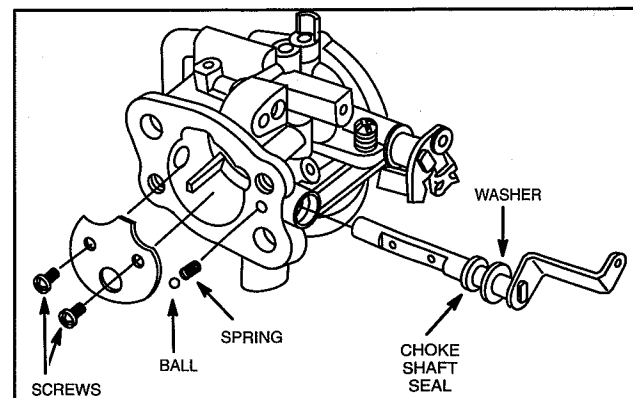

Fig. 30 – Remove Choke Shaft
7. Remove choke plate, shaft and seal, Fig. 30.